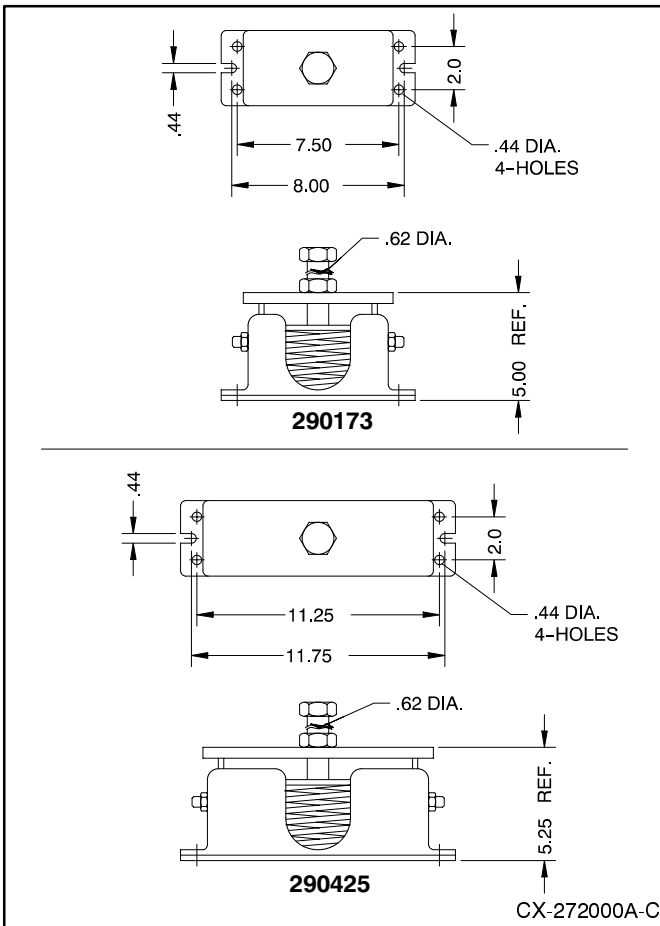

Figure 2. Vibration Spring Isolators
- Attach the vibration spring isolators to the mounting base using the 7/16-in. (11 mm) holes in the isolator's bottom casting. Mounting hardware is not supplied in the kit. See Figure 2.